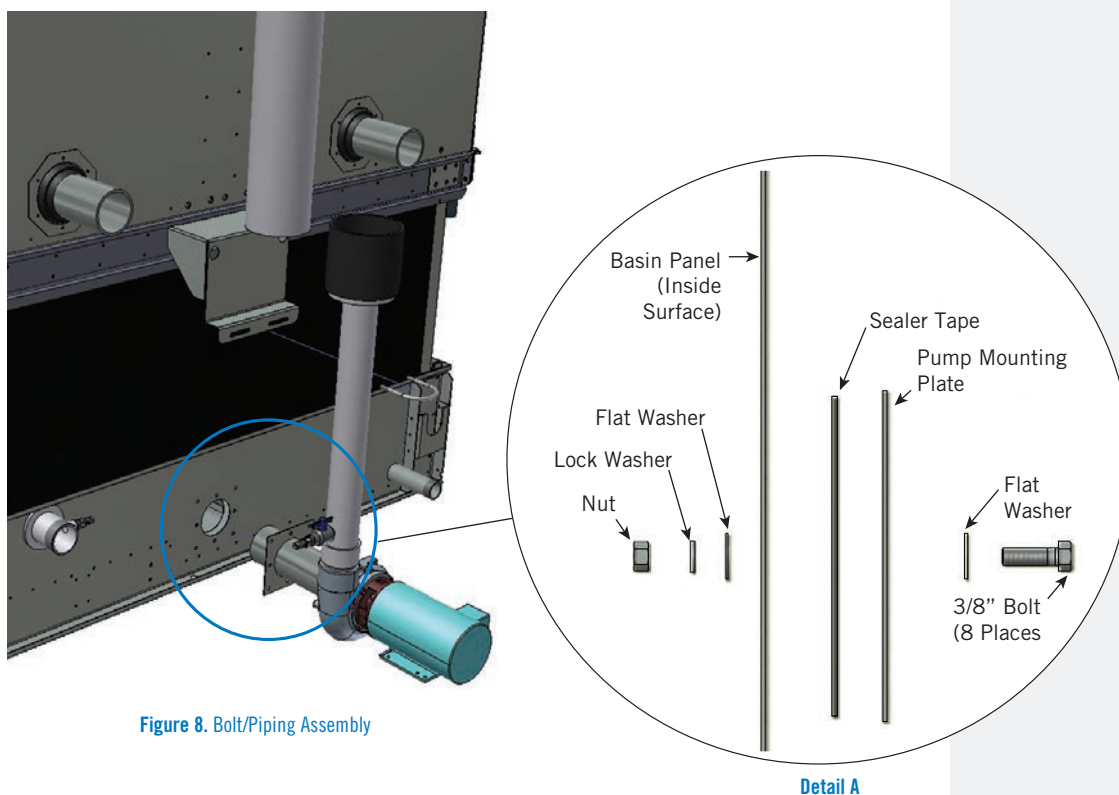

Figure 8. Bolt/Piping Assembly
8. Bolt the pump/piping assembly to the basin using flat butyl sealer tape (BAC Part #554000) and bolts provided as shown in **Figure 8**.